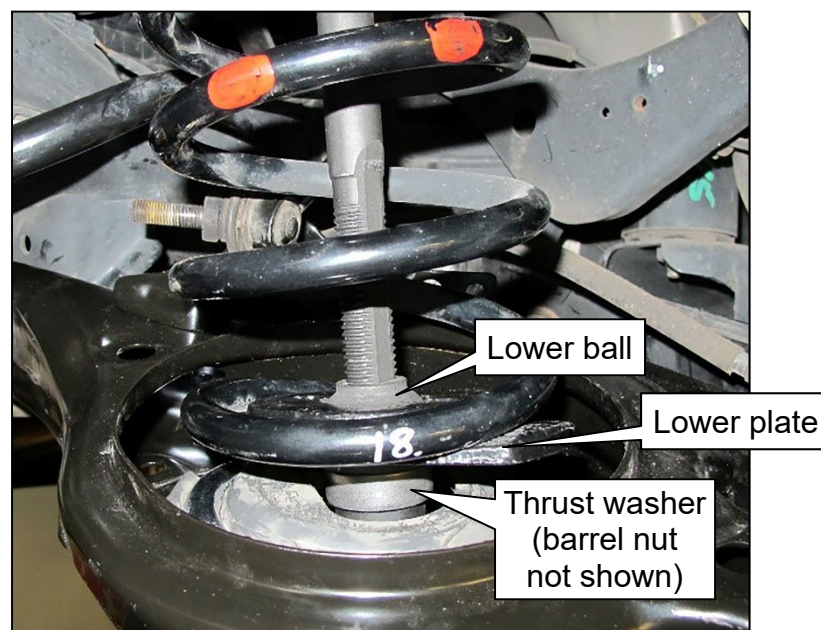

Figure 10
12. Thread the barrel nut up the threaded rod until the thrust washer makes contact with the lower ball (see Figure 10).